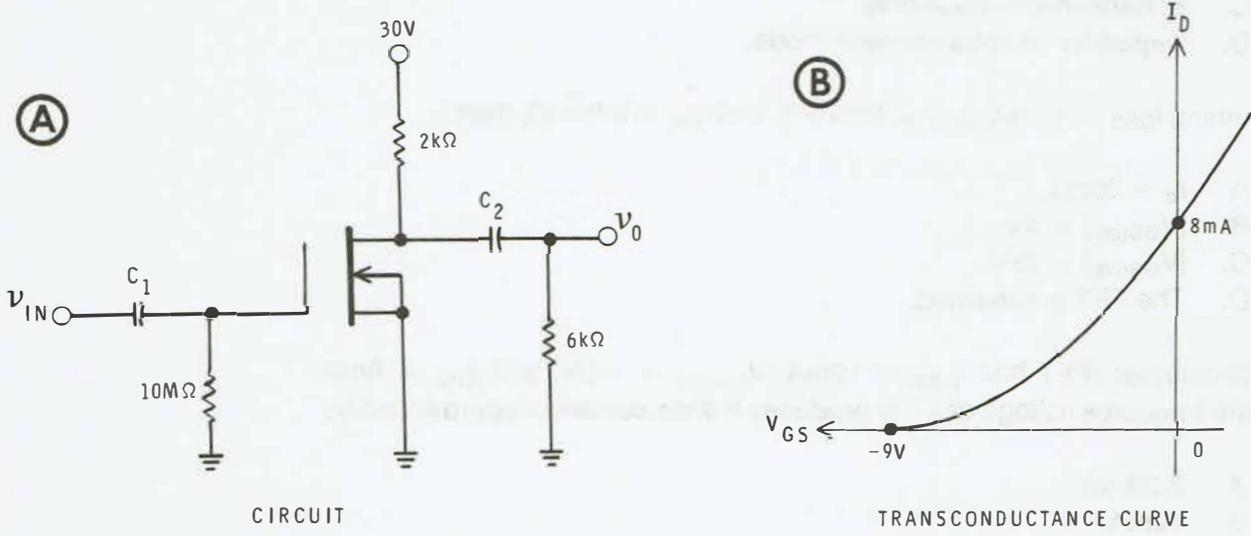

Figure 7-50
6. Based on the sketch in figure 7-50, K has a value of approximately:
Refer to Figure 7-50 for questions 9 through 11.